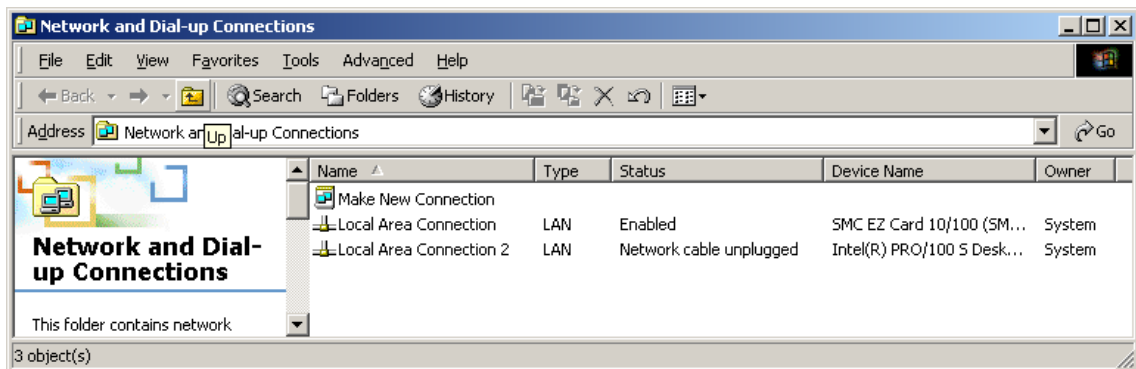

Figure 1.5-1 Network and Dial-up Connections dialog box
A “Network and Dial-up Connections” dialog box (Figure 1.5-1) will appear.
- (3) Confirm that the network card used to connect to the C1 controller appears in the name field in the Network and Dial-up Connections dialog box (Figure 1.5-1). After confirming that the network card is registered, right click on its name. Select “Properties” from the popup menu.